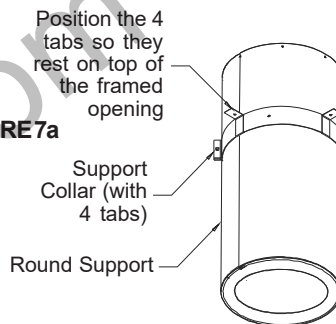

FIGURE 7a
Fasten the Support Collar to the Round Support (see Figure 7a) with the four (4) self tapping sheet metal screws through pre-punched holes in the support collar and into the round support cylinder.